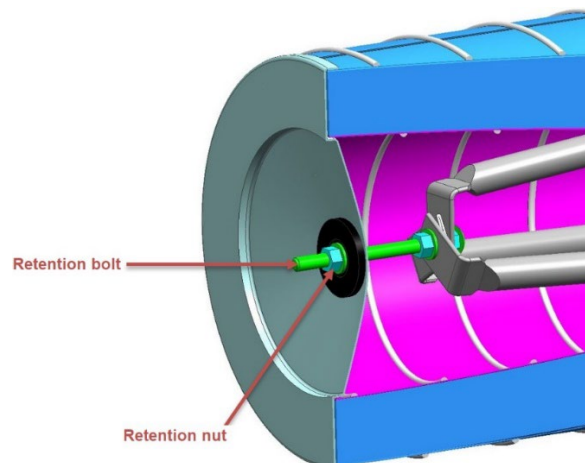

Figure 48: Assembly of retention nut
Ensure that gasket washer is still properly seated in the metal cap of the cylindrical filter element, as shown in fig.48
2. Screw the retention nut (fig.42 item 6) to the threaded retention bolt on yoke against the gasket washer as shown in Fig. 48.